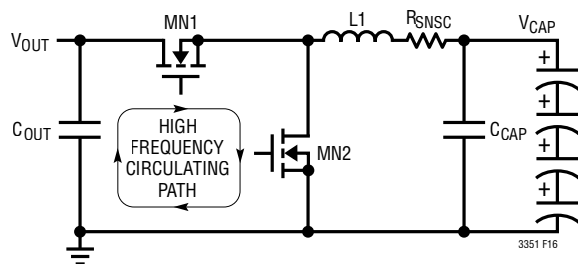

Figure 16.
2. Referring to Figure 16, keep MN1, MN2 and COUT close together. The high di/dt loop formed by the MOSFETs, Schottky diodes and the VOUT capacitance should have short, wide traces to minimize high frequency noise and voltage stress from inductive ringing. Surface mount components are preferred to reduce parasitic inductances from component leads. Connect the drain of the top MOSFET directly to the positive terminal of COUT. Connect the source of the bottom MOSFET directly to the negative terminal of COUT. This capacitor provides the AC current to the MOSFETs.